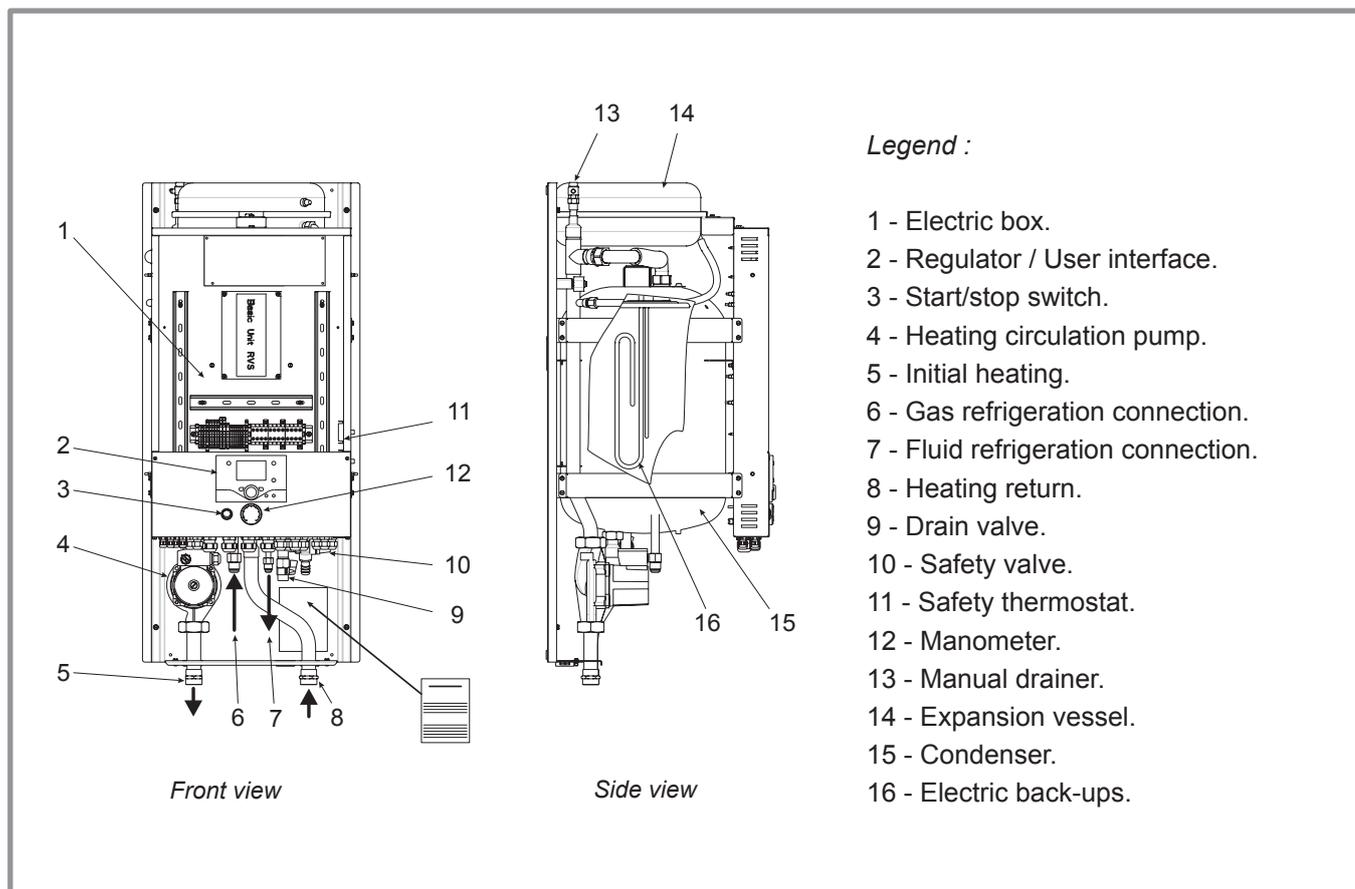

Figure 8 - Hydraulic module components
- In the condenser (rep. 15, figure 8, page 12) : The energy in the refrigerant is transmitted to the heating circuit. The refrigerant returns to liquid state.